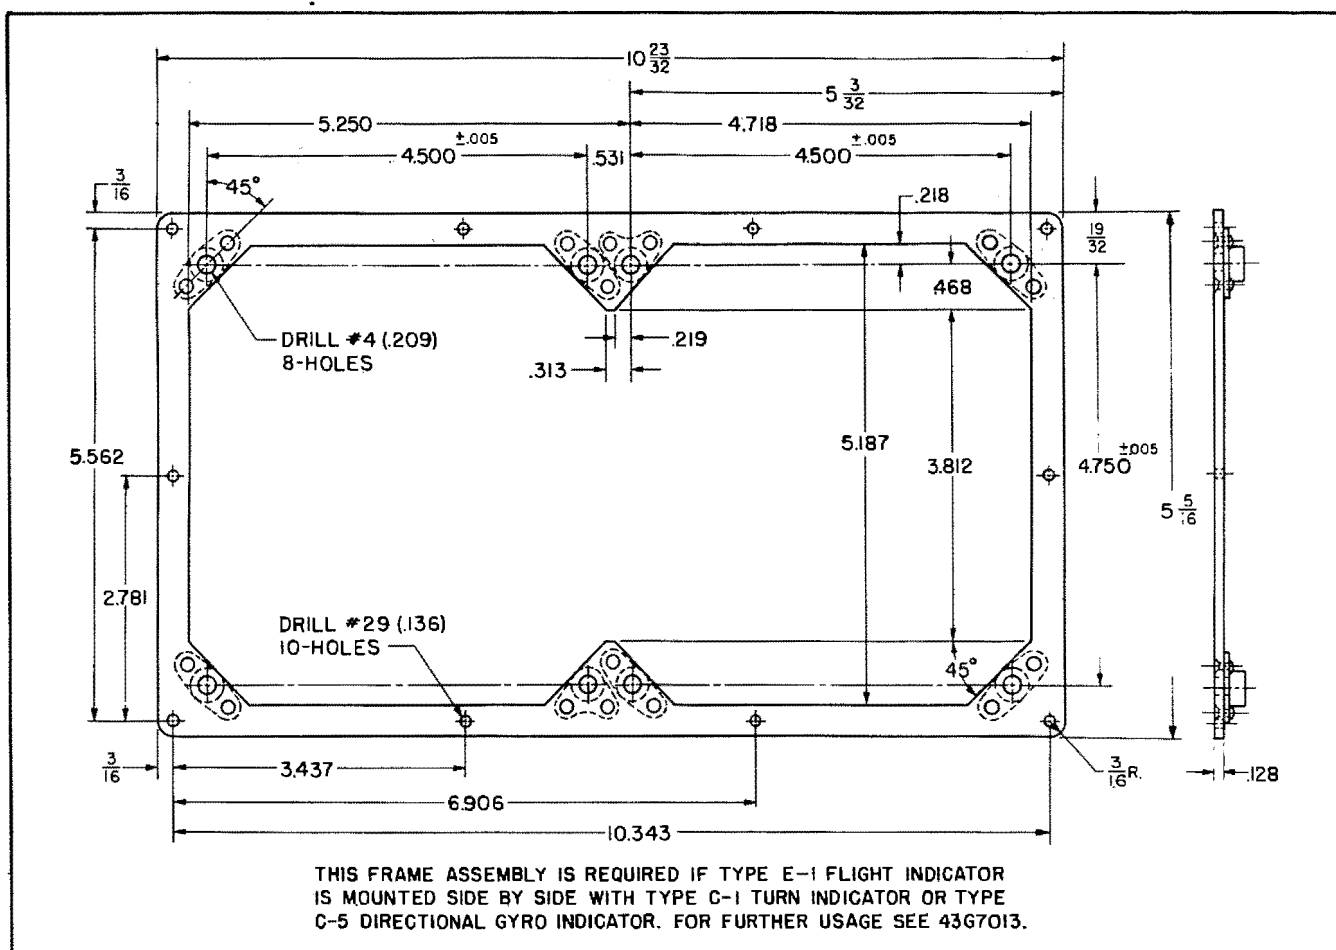

Figure 9 - Double Mounting Frame
(1) Mounting frame, AF No. 43D7014, is to be used when both the Type C-1 (or C-5) Indicator and the Type E-1 Flight Indicator (or the Type J-1 Attitude Gyro Indicator) are to be installed. The mounting frame mounts a pair of instruments side-by-side. (See figure 9.)